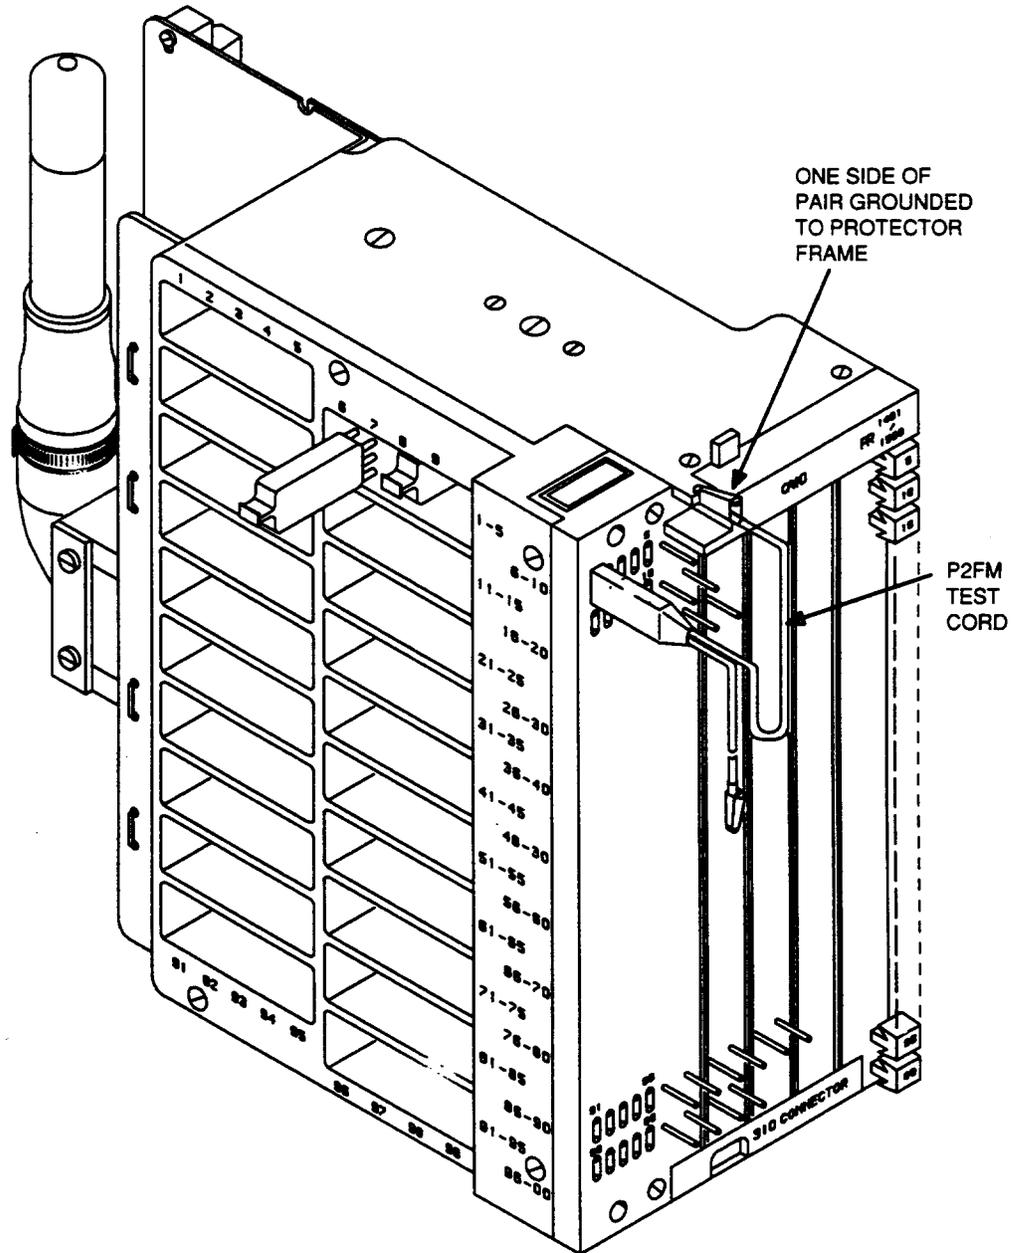

Figure 25. P2FM Test Cord for Testing Individual Pairs
6.08 The P2FM test cord (Figure 25) is used to short the tip and ring or to ground the tip and/or ring of an individual cable pair by inserting the plug end into a pair of recessed test terminals on the 310-type connectors.